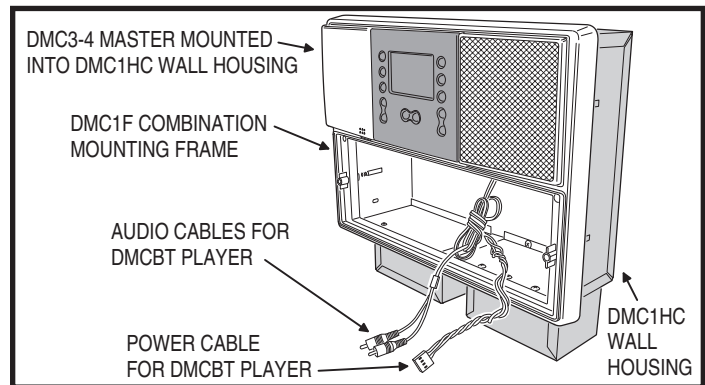

Figure 22. DMC3-4 & DMC1F Frame Ready for DMCBT Player
6. Secure the DMC3-4 Master Station to the wall housing using the two long screws provided (see Figure 22). **DO NOT OVERTIGHTEN THE SCREWS THE FRAME MIGHT DISTORT OR CRACK!**